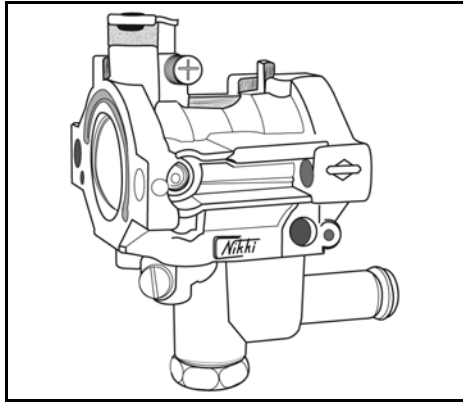

Figure 11
- Figure 11 - Nikki LP / NG Mixer Gaseous Fueled Vertical Shaft